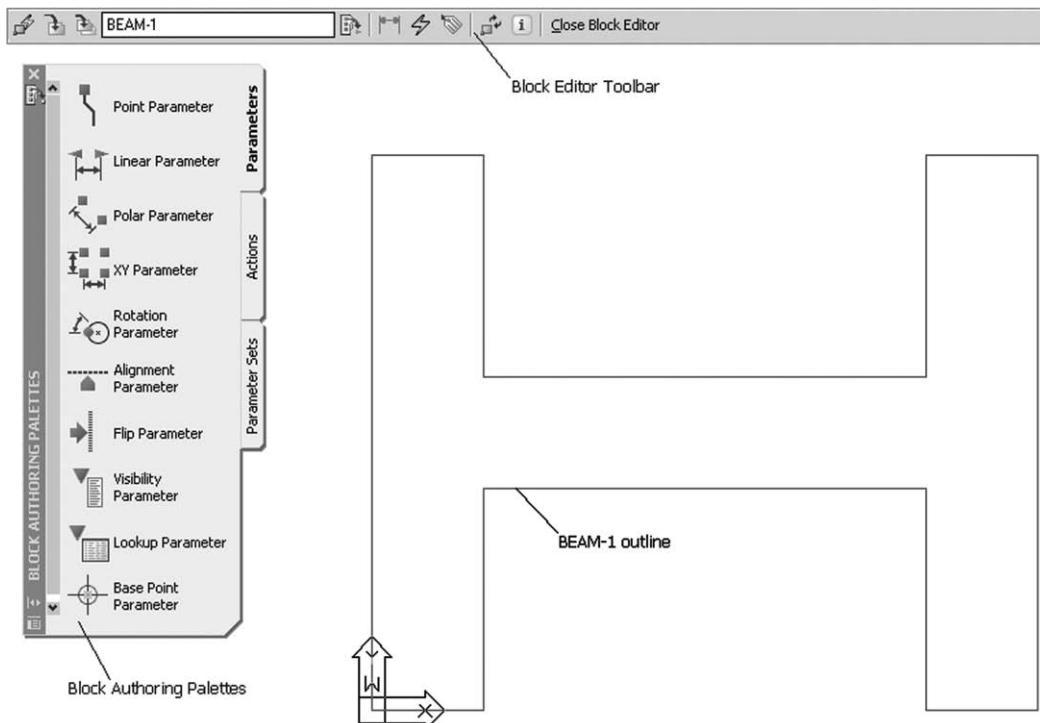

Figure 30.3 The Block Editor screen for BEAM-1.
- 4 Figure 30.3 displays the opened block editor at this stage.